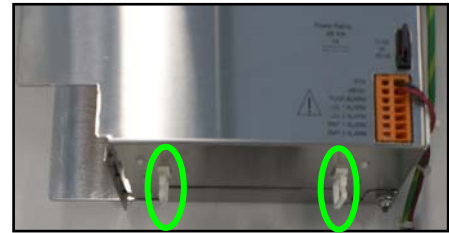

Fig 12: Routing the trimmed 48” connection cables via the cable guides installed
- 2.1.3** Sets of 48” connection cables, terminated in the appropriate RJ connectors, have been provided with the assembly. Trim the un-terminated end of the connections cable to the desired length, routing the connection cables through the cable guides installed on the base of the TeleLite 3-slot “swing-Out” shelf. See Figure 12.